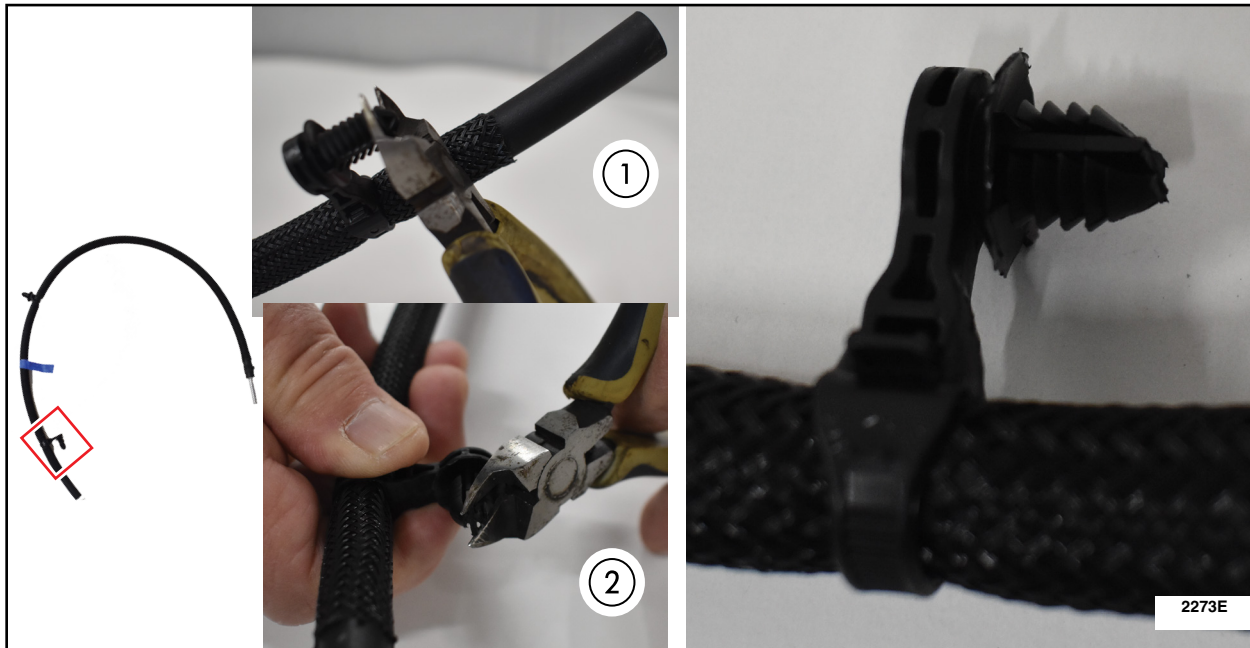

FIGURE 8
11. Cut the tip from fir tree fastener at the end of the tube. Trim the sides of the top 2 barbs at a 45-degree angle on the fir tree fastener to more easily allow fitment through the subframe hole. See Figure 8.